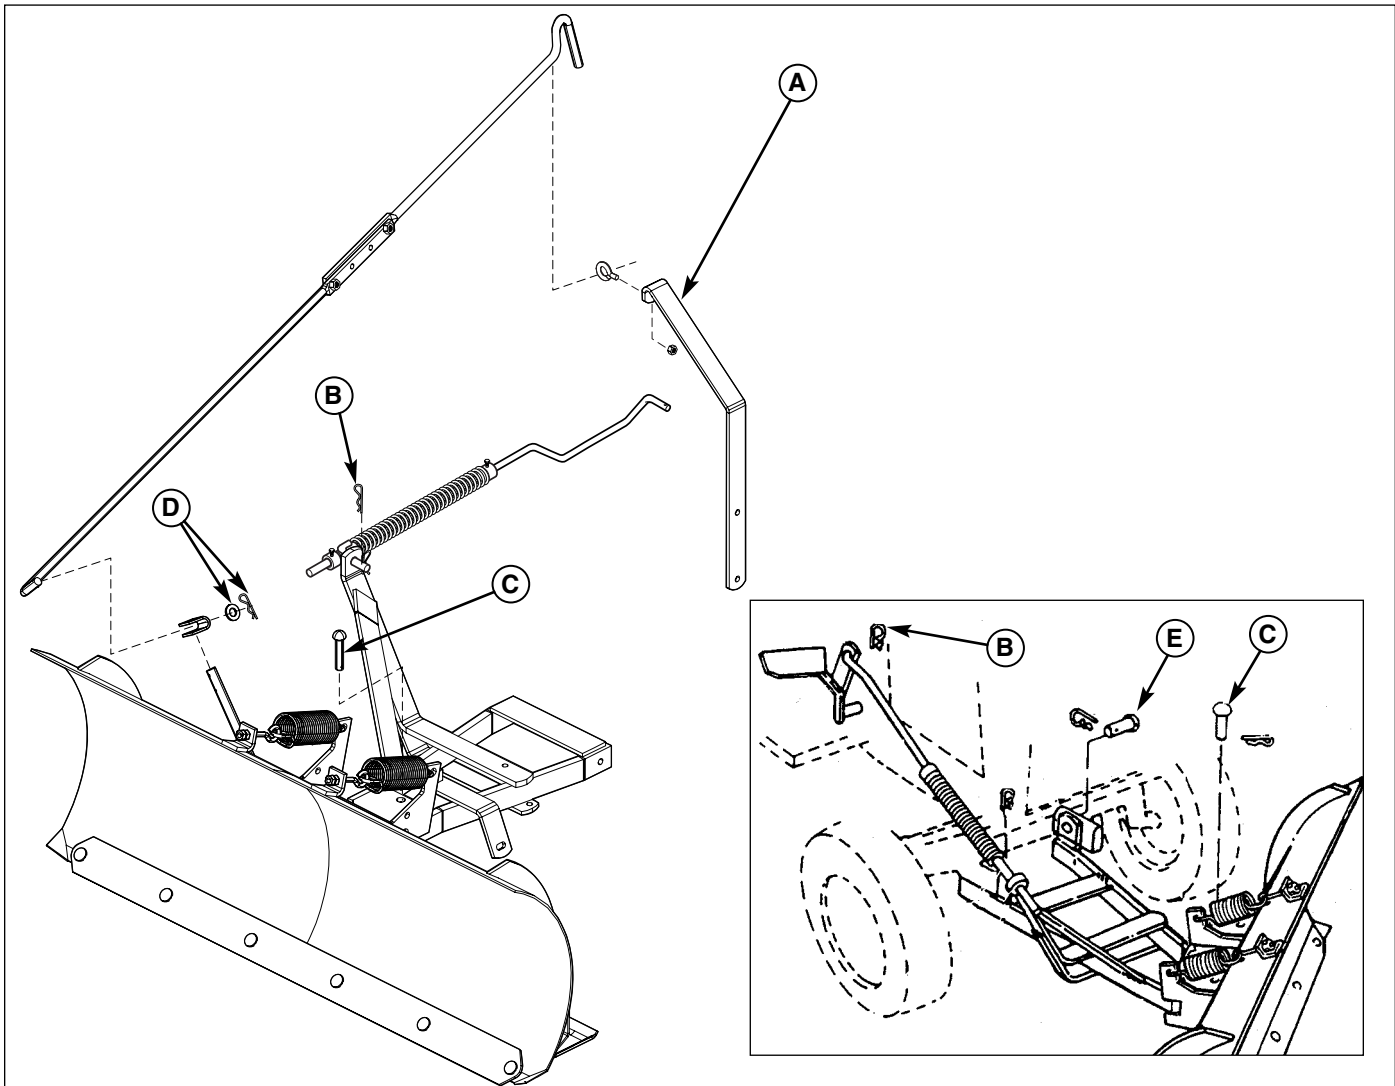

Figure 15. Dozer Removal
2. Remove the hair pin clip and washer (D, Figure 15) securing the angling control rod to the clevis. Disconnect the angling control rod.
3. Remove the angling control rod from the support arm (A).
4. Remove the pivot pin (C) connecting the blade and pushbar. Remove the blade.
5. Remove pin (E) securing hitch to the tractor.